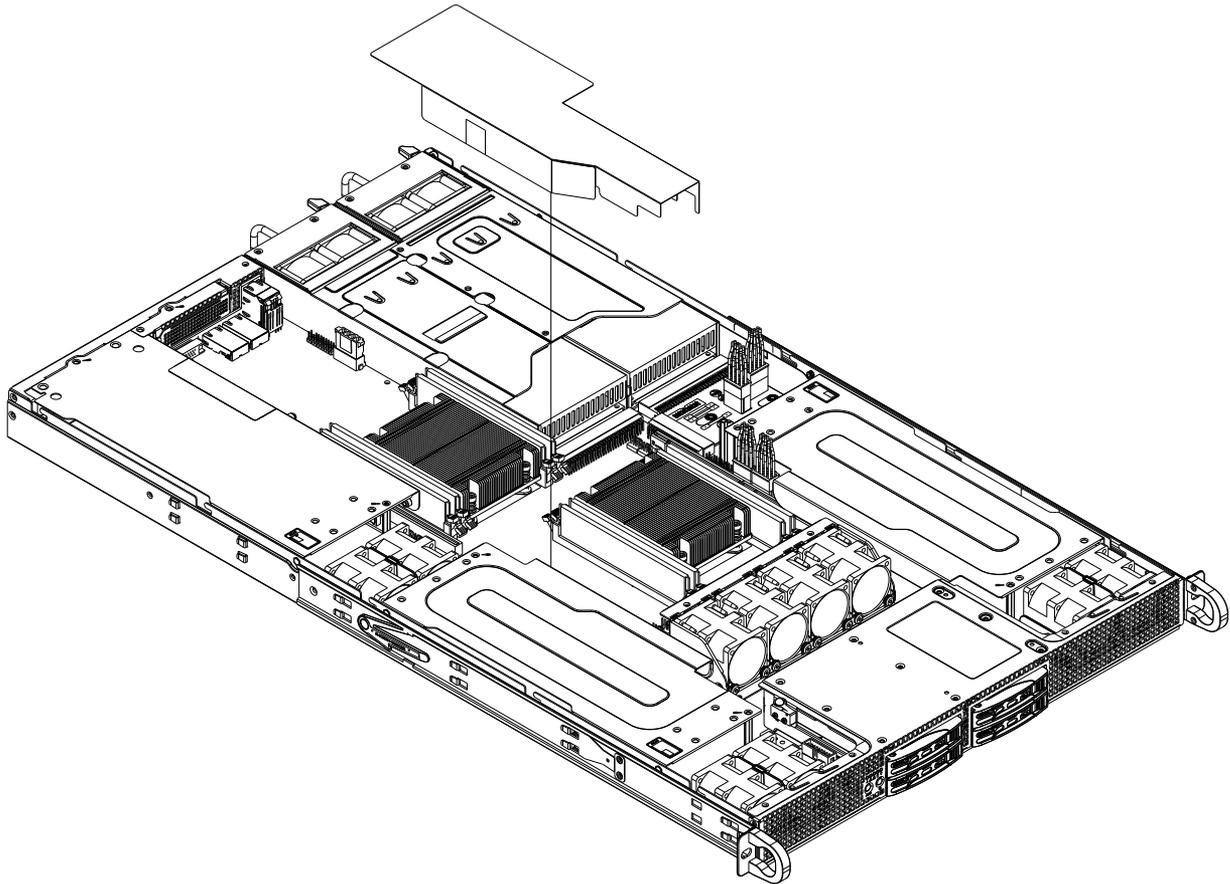

Figure 6-6 Cooling Fans Access Example
1. If you have not already done so, remove the chassis cover to access the fans, see the example in Figure 6-6 on page 52.